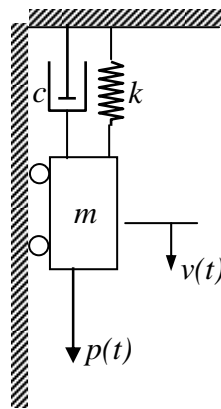

Figure 5
6. a) Derive the equation of motion For the SDOF model shown in Figure 5. Given k : stiffness of the system, c : viscous damping coefficient of the system, m ; mass of the system, $p(t)$: time varying external load acting on the system and $v(t)$: displacement of the system with respect to static equilibrium position.